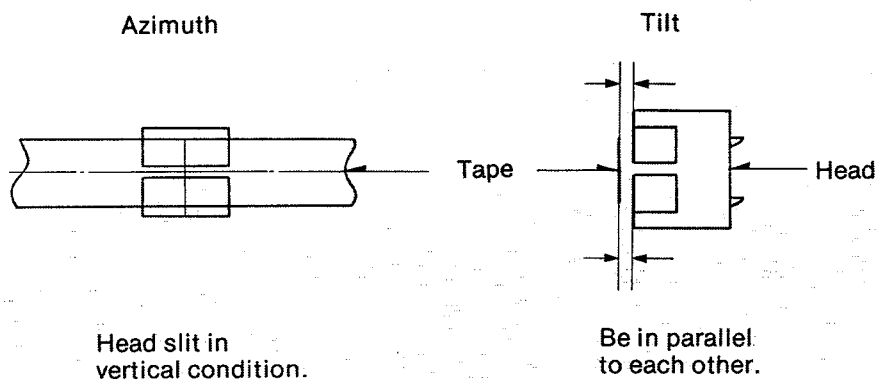

Fig. 44
Use screws (B) and (C) respectively to adjust so that the condition will be as shown in figure 44, estimating azimuth and tilt visually.